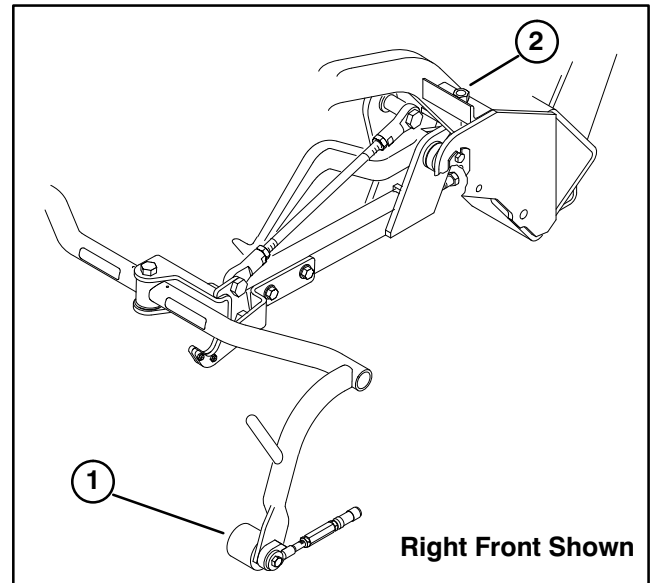

Figure 2
- If an adjustment is required, loosen jam nut on carrier frame stop screw (Fig. 2) and rotate screw up or down to raise or lower carrier frame. Tighten jam nut after adjustment is attained.